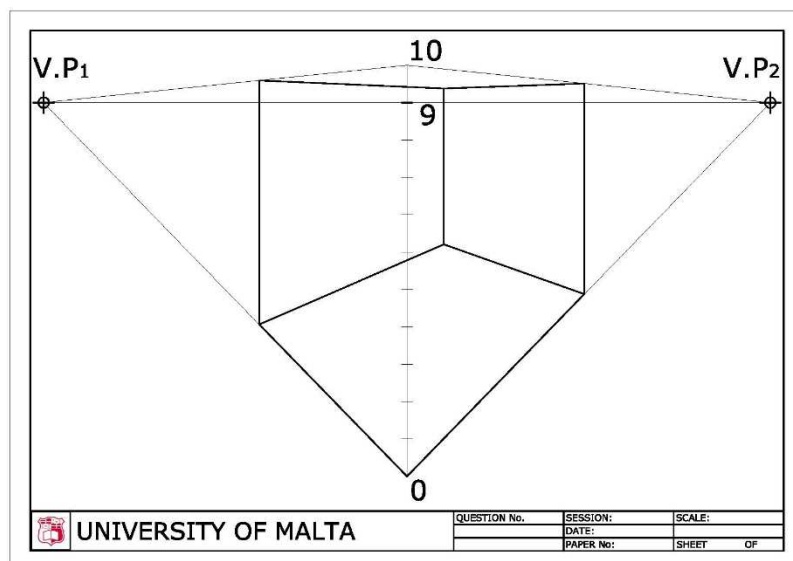

Figure 9b
Use the dimensions given in the orthographic projection to construct an estimated two point perspective of the office. The viewing direction required is indicated by the arrows in the plan. Use the suggested layout of the two point perspective shown in Figure 9b. (19)